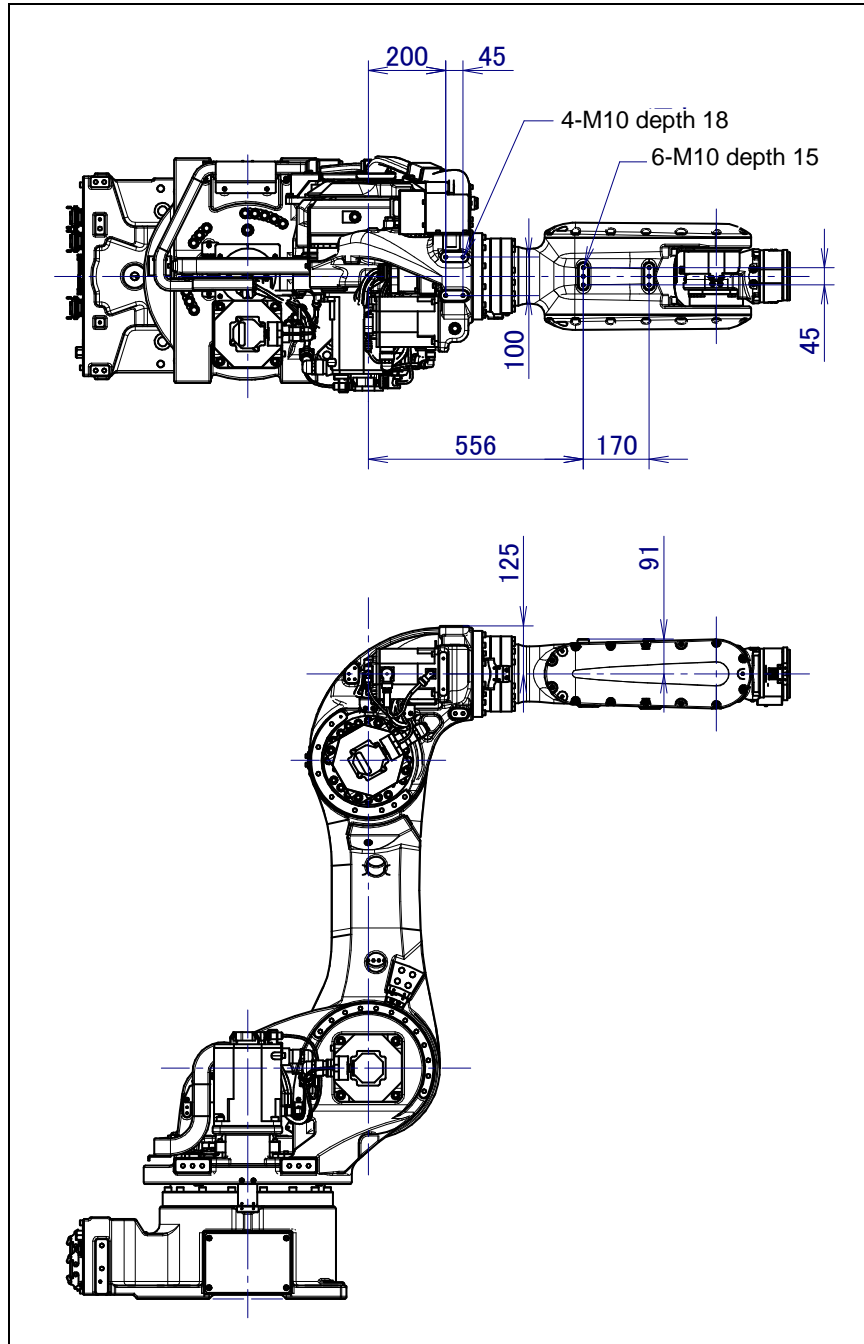

Fig. 4.2 (a) Equipment mounting faces
As shown in Fig. 4.2 (a), tapped holes are provided to install equipment to the robot.
- 2 When using a user tap shown in Fig. 4.2 (a), keep the center of gravity position of the equipment according to Section 3.5.